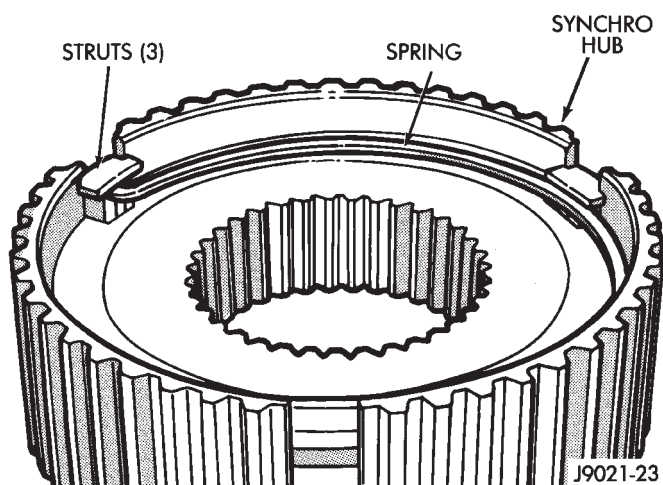
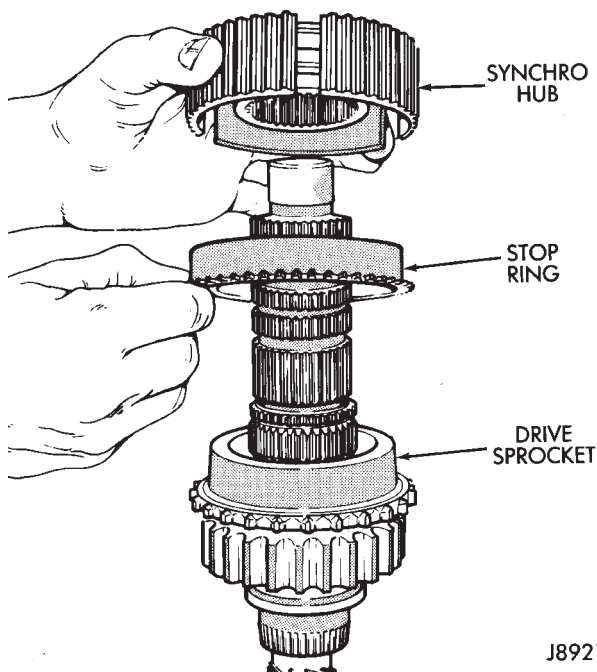

Fig. 57 Installing Synchro Springs And Struts In Hub
Fig. 58 Sprocket, Stop Ring And Hub Installation
(2) On synchro models, install struts and spring(s) in hub (Fig. 57).
(3) Lubricate drive sprocket bearings, stop ring and hub with automatic transmission fluid. Bearings can also be lubricated with petrdum jelly if desired.
(4) Install sprocket, stop ring (synchro models only) and hub on mainshaft (Fig. 58). **Be sure to seat hub struts on stop ring lugs.**
(5) Install spacer washer on hub, if equipped.